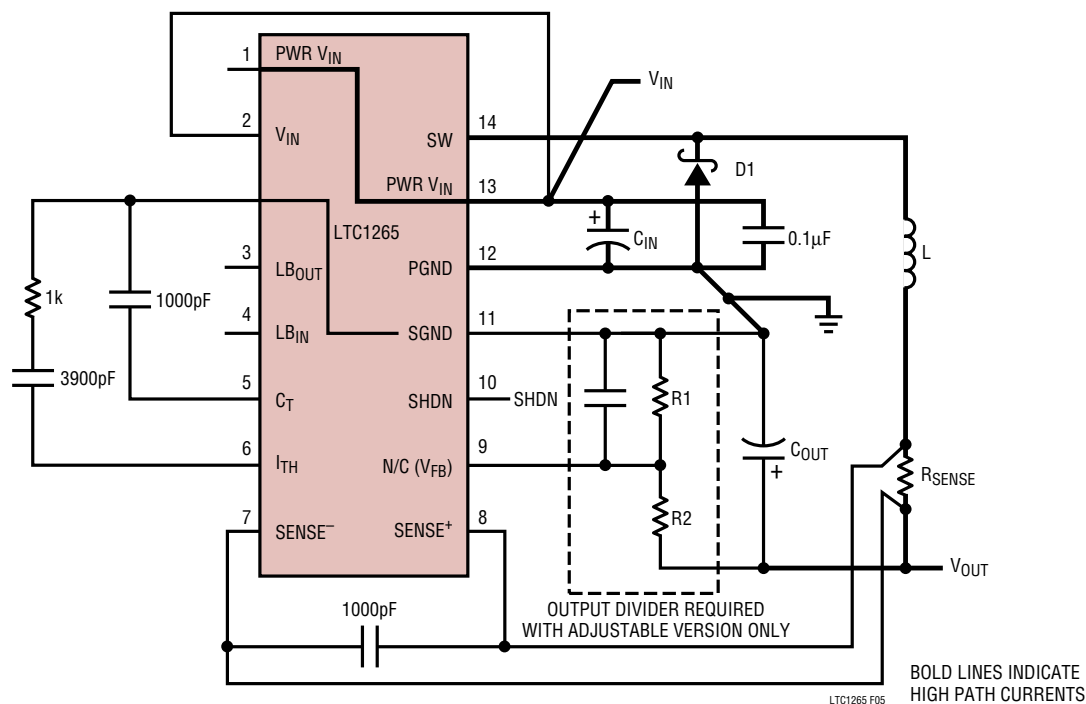

Figure 5. LTC1265 Layout Diagram (See Board Layout Checklist)
When laying out the printed circuit board, the following checklist should be used to ensure proper operation of the LTC1265. These items are also illustrated graphically in the layout diagram of Figure 5. Check the following in your layout:
- When laying out the printed circuit board, the following checklist should be used to ensure proper operation of the LTC1265. These items are also illustrated graphically in the layout diagram of Figure 5. Check the following in your layout: